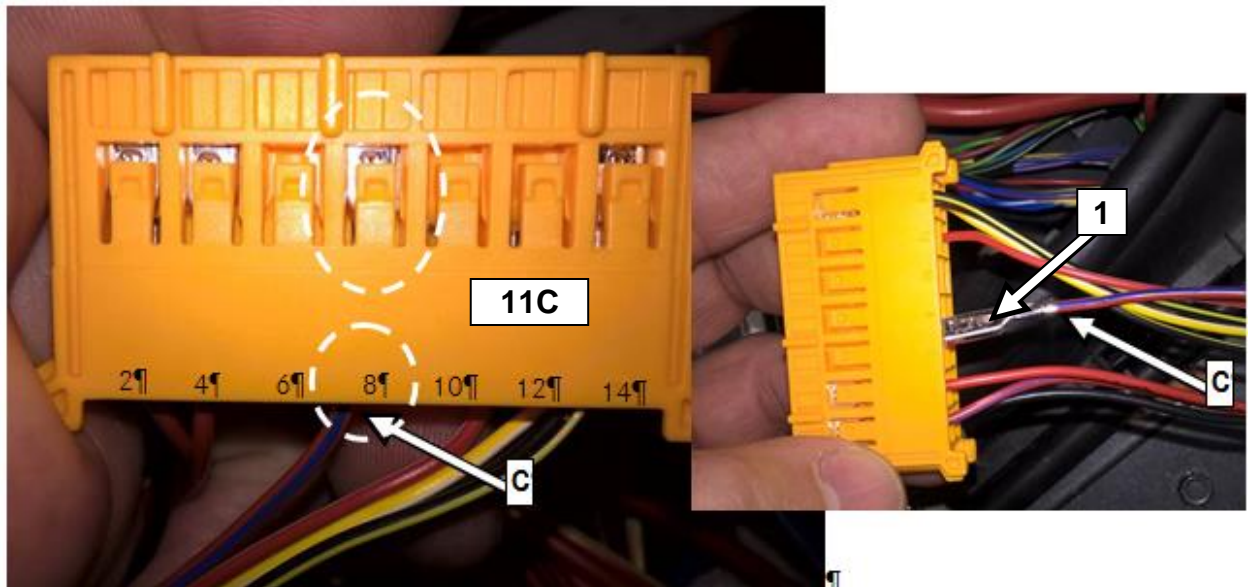
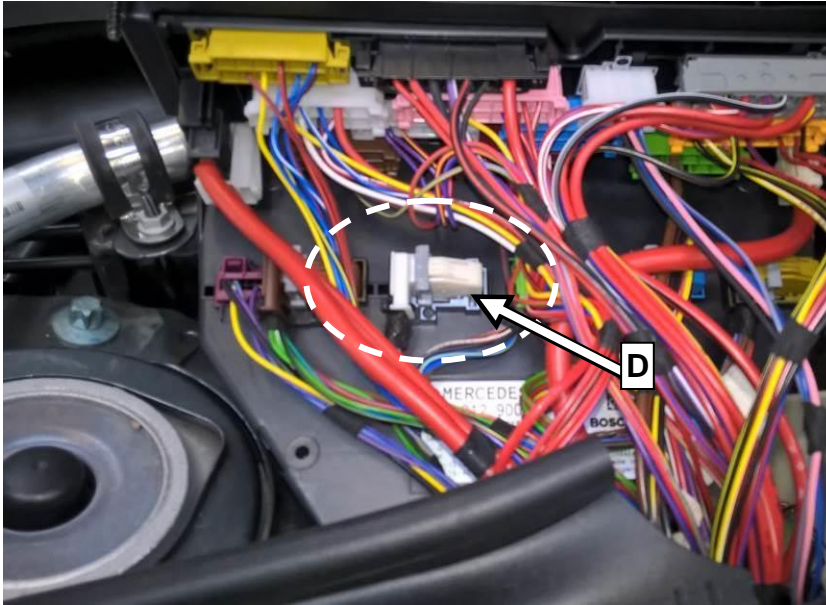
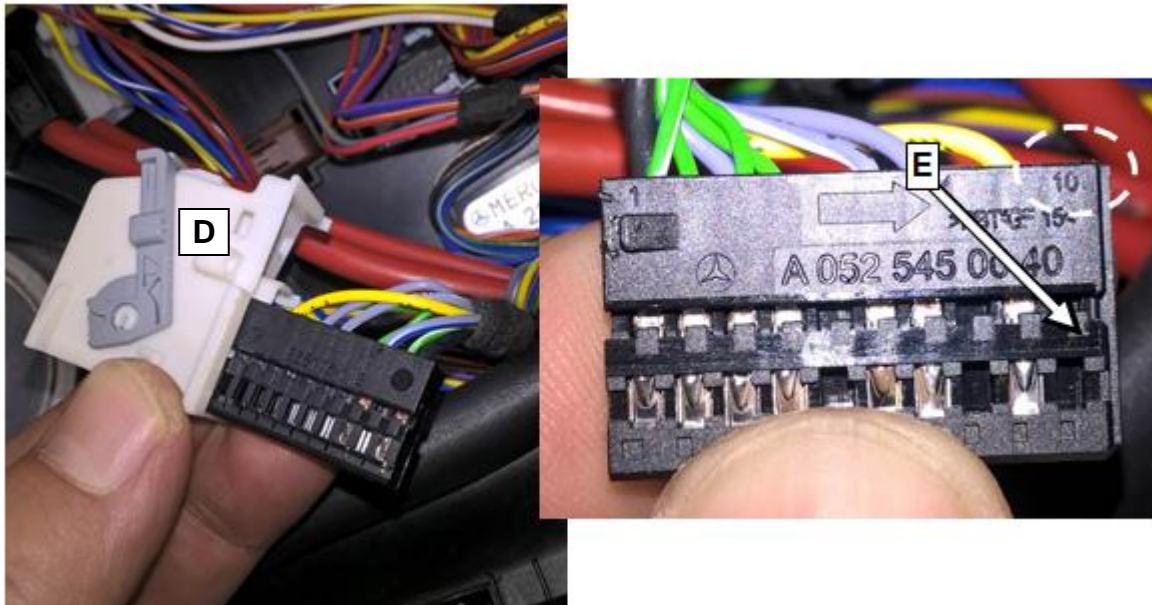

Figure 3
Figure 4
Figure 5
3.  Unpin **red-blue** wire (pin 8 at orange connector [11C], Figure 3) using pin removal tool * then cut off female wire connector (1).
4.  Re-connect orange connector 11C (Figure 3) to driver SAM.
5. Crimp **new** female wire connector (with 0.75 mm²) to **blue-red** wire (C, Figure 3).
6.  Disconnect white harness connector (D, [19I] Figure 4) from driver SAM and cut-off cable tie.
7.  Open/unlock connector (D, [19I] Figures 4, 5) and insert **red-blue** wire (C, Figure 3) into position 10 (E, Figure 5).
8.  Close/lock white connector (D, [19I] Figure 5) and re-connect to driver SAM.
**Note:** Install new cable tie on connector (D) wiring harness.